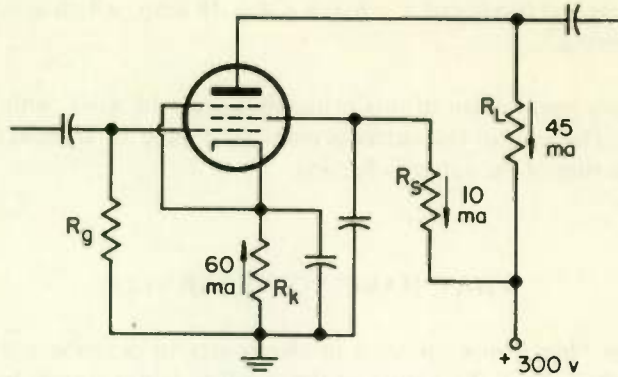

Fig. 12
3. The d-c current through R_c in Fig. 12 is (a) _____ ma, and its direction of